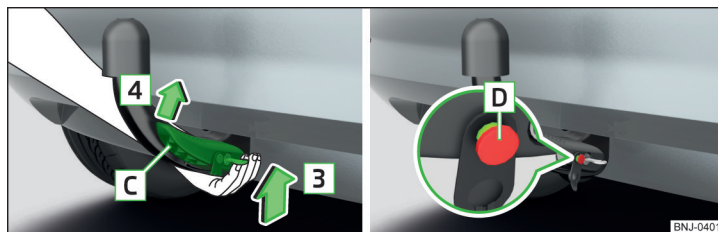

Fig. 236 Insert ball rod / trigger bolt in the extended state
- › Grip the tow bar **from underneath** » Fig. 236 and insert into the mounting recess in arrow direction **3** until you hear it click into place » **I**.